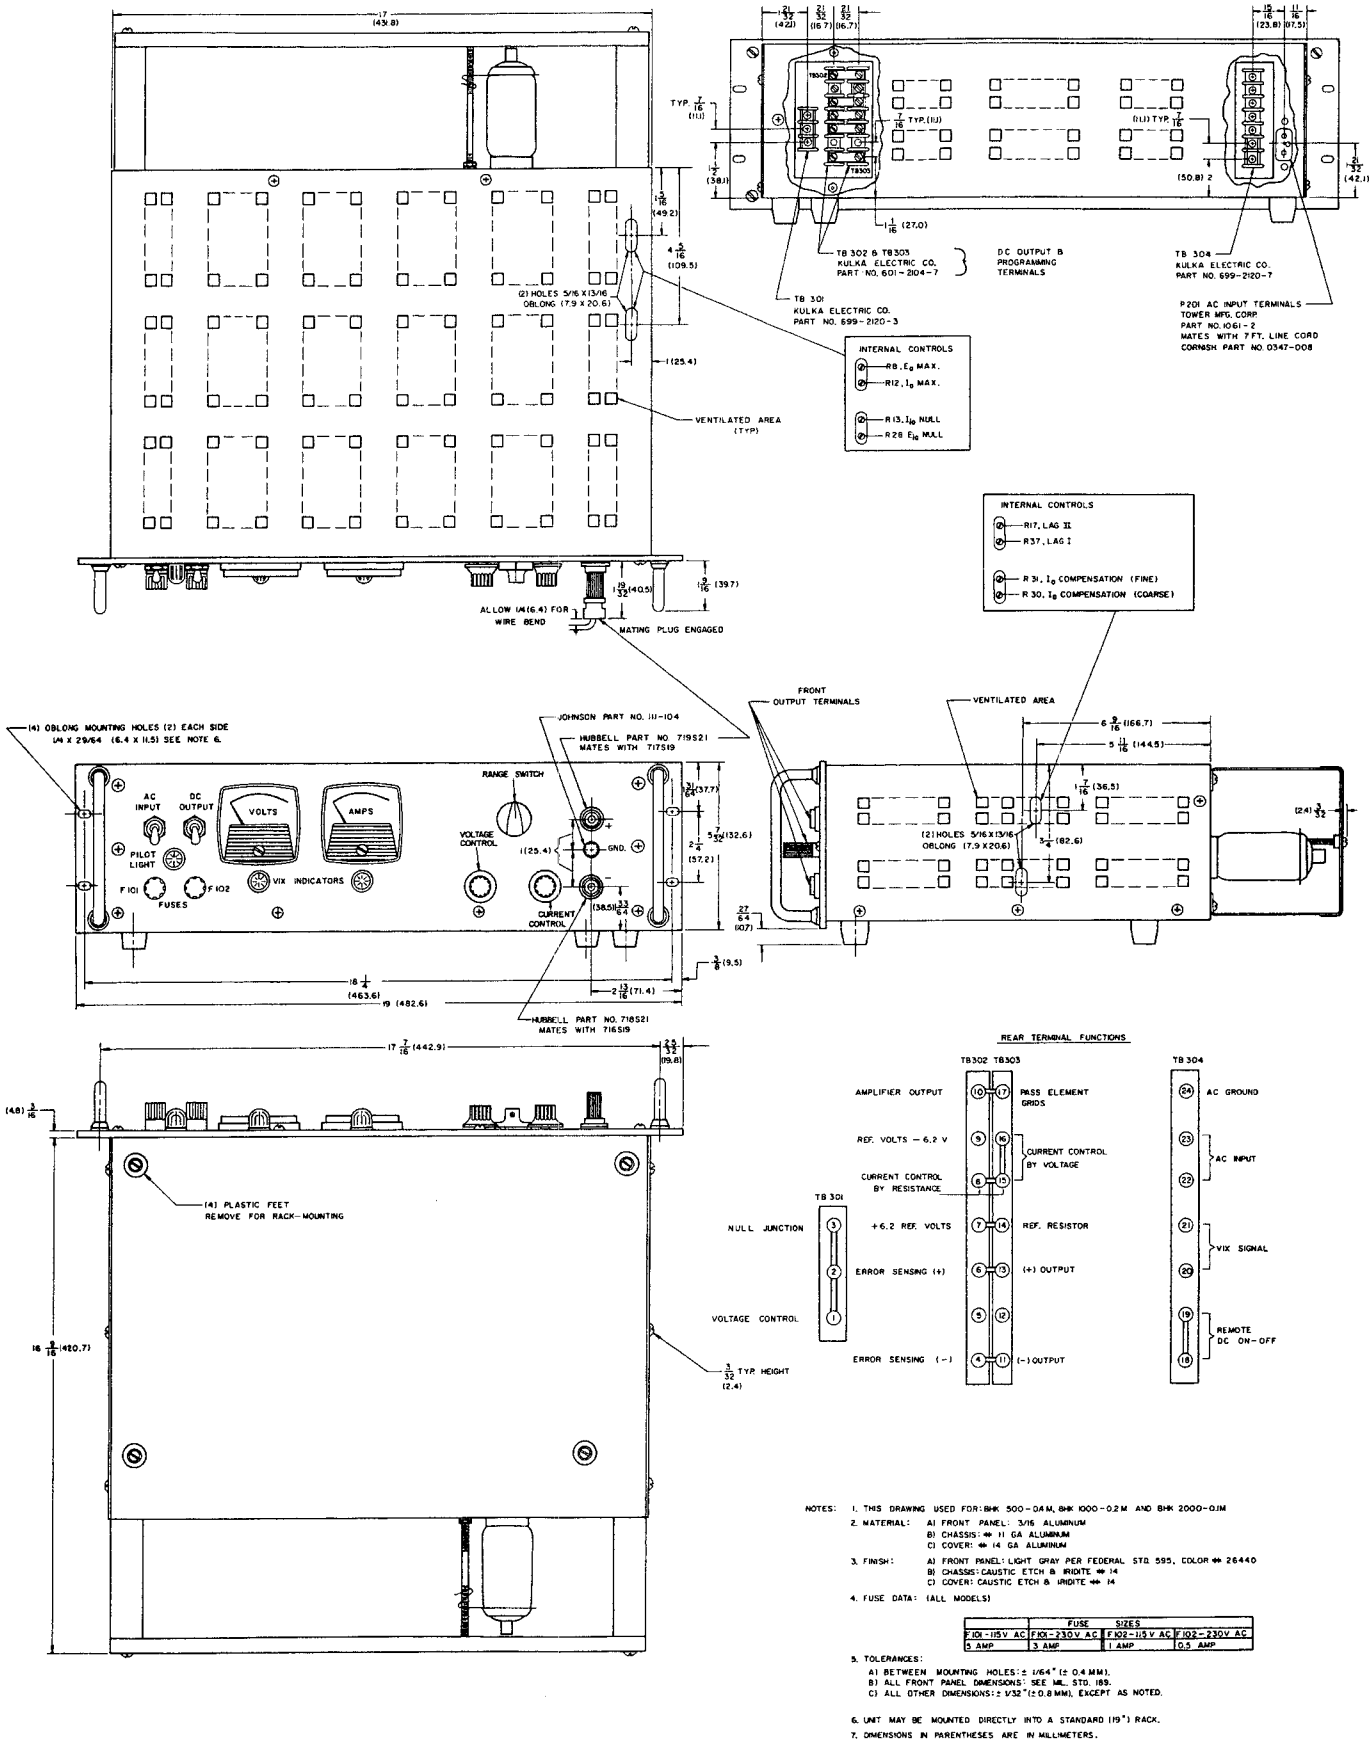

FIG. 1-3 MECHANICAL OUTLINE DRAWING, BHK SERIES
- b) TERMINALS AND CONTROLS: Refer to "Mechanical Outline Drawing" (FIG. 1-3) and Section II (paragraph 2-3).
- c) DIMENSIONS AND FINISH: Refer to "Mechanical Outline Drawing" (FIG. 1-3).
- b) **SIGNAL GROUND.** The d-c output is isolated from the a-c power line and from any direct connection to chassis or ground. The negative side of the output is connected to chassis through a capacitor in series with a resistor⁽¹⁾. The maximum voltage that can be supported between either output terminal and ground or chassis is 1000V d-c plus the maximum output voltage of the power supply. Either side of the output may be grounded. Convenient grounding terminals are provided at the front panel binding post or at the rear barrier-strip. (Refer to FIG. 1-3).